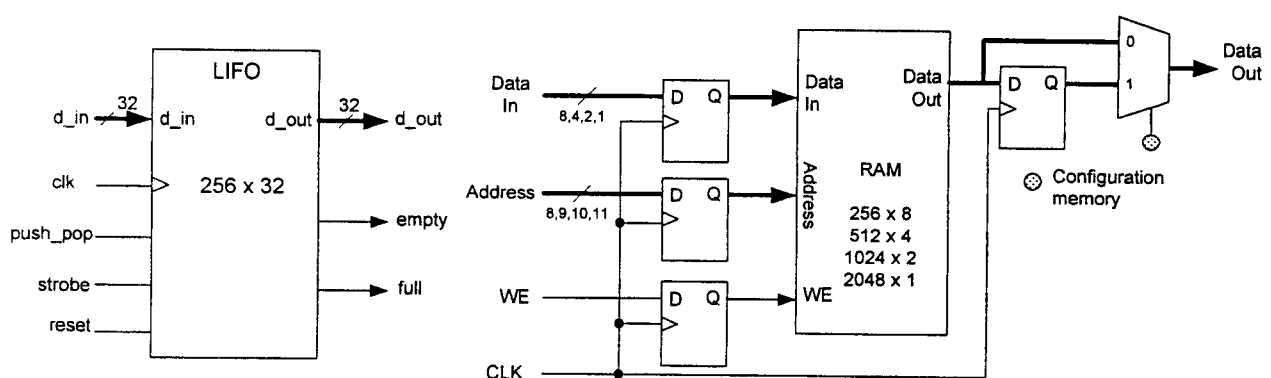

Figure 3.1
3. Figure 3.1 depicts a 256 x 32 bit synchronous stack or last-in-first-out (LIFO) memory module that is implemented inside an Altera FLEX10K FPGA device. All operations are synchronous to a system clock signal *clk*. The signal *reset* initializes the LIFO to an empty state. The LIFO is enabled by the *strobe* signal which goes high for one cycle when there is either a push or a pop operation.